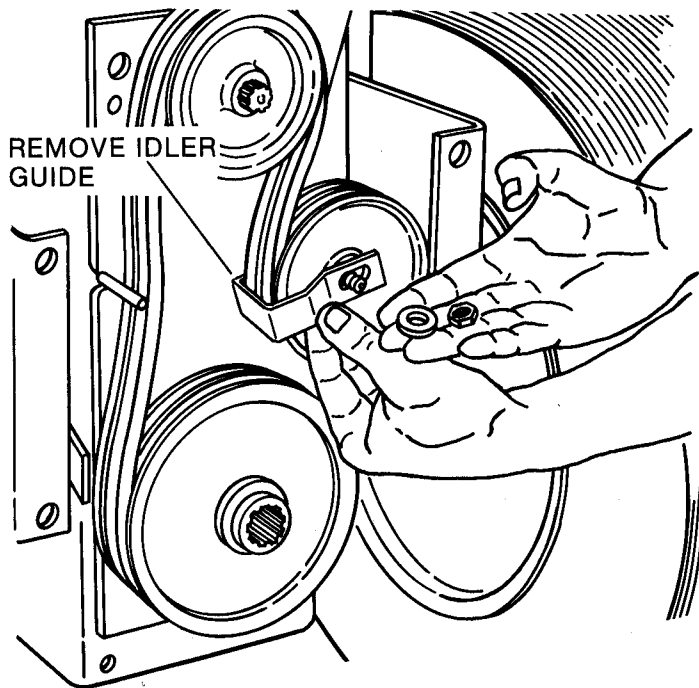

FIG. 4 - REMOVE IDLER BELT GUIDE
Step 3: Remove the existing belt guide (figure 4) from idler arm assembly. By removing the 3/8C flange nut, belt guide, and flat washer. Use same flange nut to secure idler on idler arm assembly.